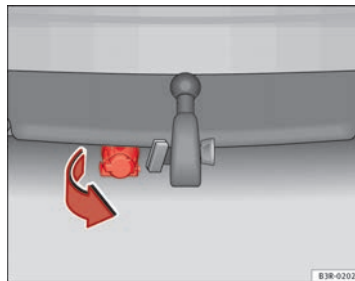

Fig. 173 Rear bumper: Pulling down the power socket
- To plug in the electrical connection for the trailer, pull down the socket below the bumper ⇒ Fig. 173.